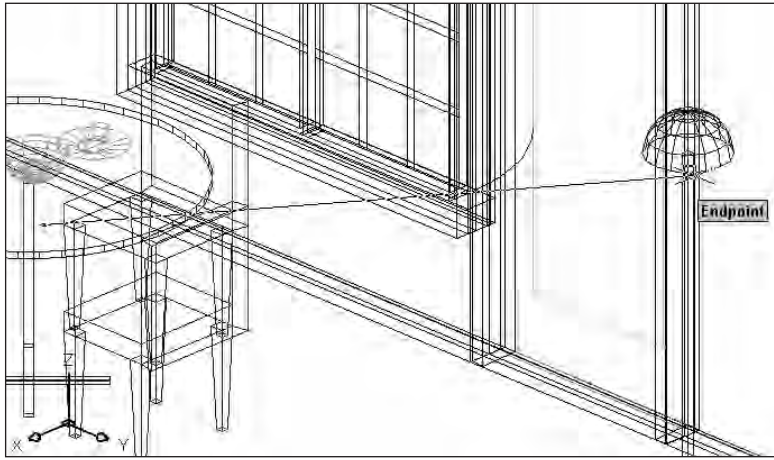

Figure 25-13: Picking the point light location
4. Type **P1** in the *Light Name* text box. Click *Modify*. AutoCAD returns you to your drawing. Click *Pan Realtime* and pan to the right a couple of times until you see the floor lamp, as shown in Figure 25-13. Press *Esc* to exit *Pan* mode. At the *Enter light location <current>:* prompt, pick the endpoint shown in Figure 25-13. AutoCAD returns you to the *New Point Light* dialog box.